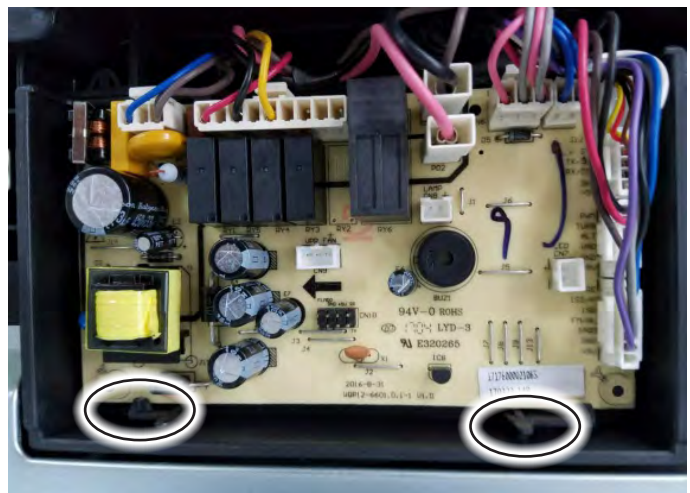

Figure 3
5. Depress the two (2) clips indicated in Figure 3 and remove control board from enclosure.